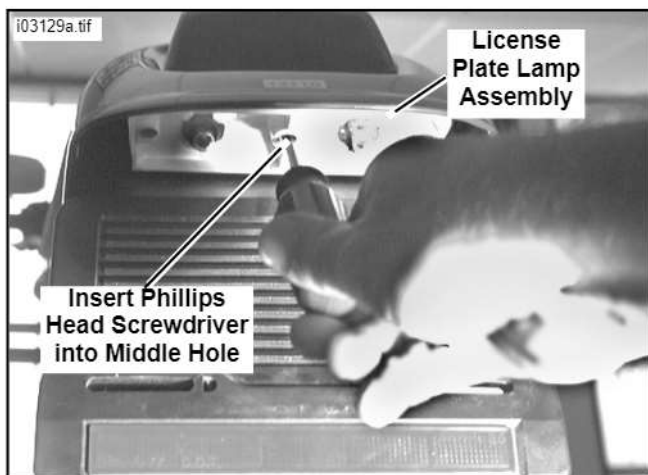

Figure 8. Removing the Tail/ Stop Lamp Assembly (FXSTD Models)
9. See Figure 8. Insert a Phillips-head screwdriver into the middle hole of the license plate illuminator assembly. Push the screwdriver in to disengage the clip while gently pulling the tail/ stop lamp assembly out of the fender.
Peel the paper backing from the front side of the pad. Position the license-plate support onto the pad, and re-attach with the original hardware in the upper and right-side lower holes only (see Figure 8). Tighten securely.